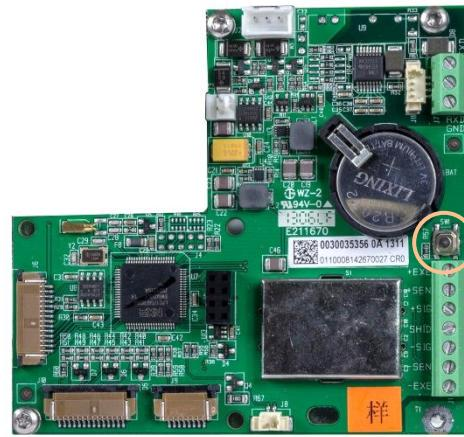

Figure 2-2: Setup Switch Location on Terminal Main Board
- If the terminal is configured as legal for trade, the user can only access setup by pressing the setup-switch (a hardware switch on main-board, indicated in Figure 2-2). The terminal will then display the F1 (Scale) menu label and scale parameters can be modified.